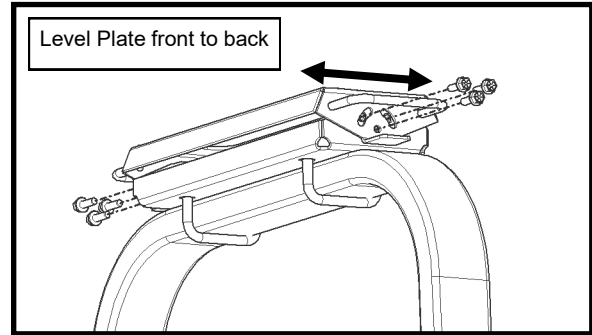

Fig. 3 (Attach Striker Plate)
- Per fig. 3, attach the Striker Plate to the ROPS Plate using the supplied 1" long 5/16-18 screws. Take care not to cross thread the weld nuts.